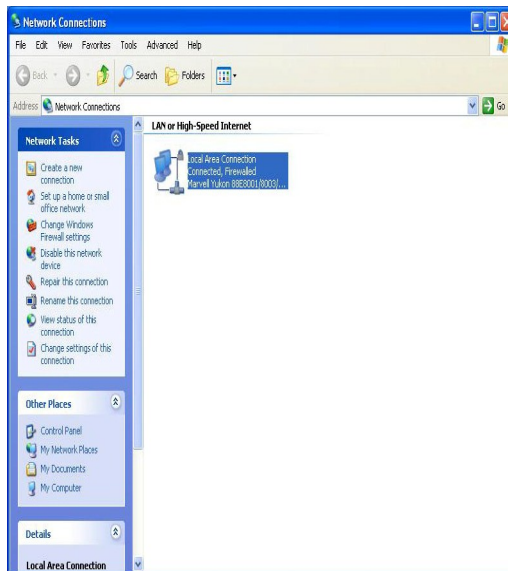
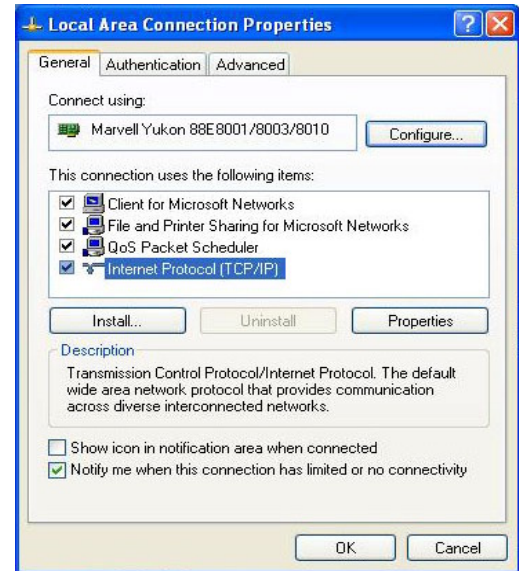

Figure 4-13 Connection icon
Figure 4-14 Connection Properties
1. Right click Connection icon (Figure 4-13) and select "Properties" tab to bring up Connection Properties window (Figure 4-14).